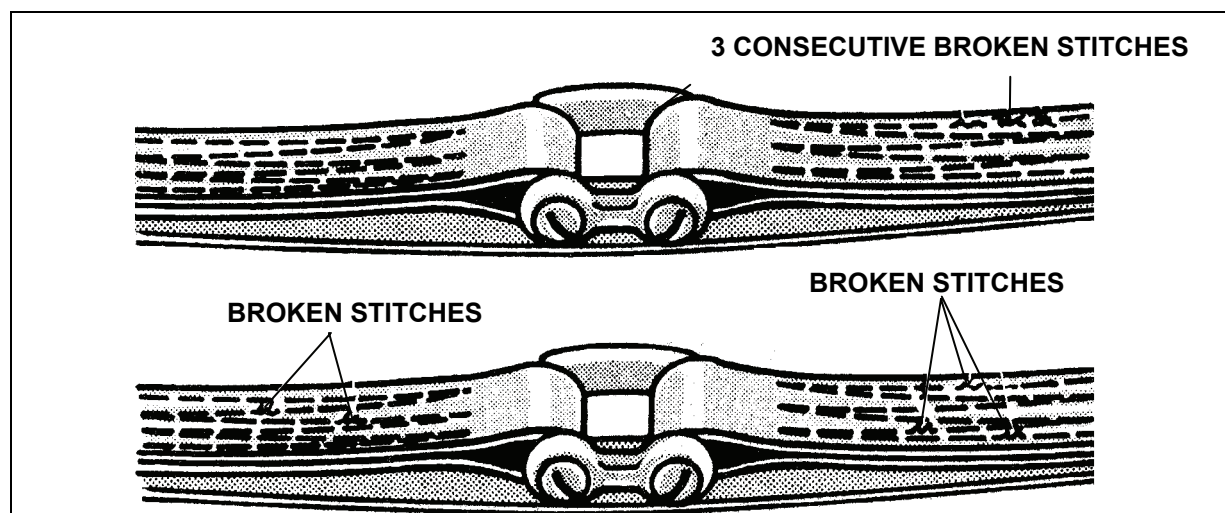

Figure 6-29. Sling with Broken and Loose Stitches
- Three or more consecutive broken and/or loose stitches (Figure 6-29).